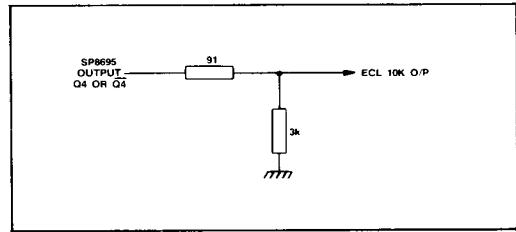

Fig. 8 Interfacing to SP8695 output to ECL 10K
3. The Q₄ and Q₄ ECL outputs have internal circuitry equivalent to a 14k pull-down resistor on each output and are ECL II compatible: they can however be interfaced to ECL III/10K as shown in Fig. 8.